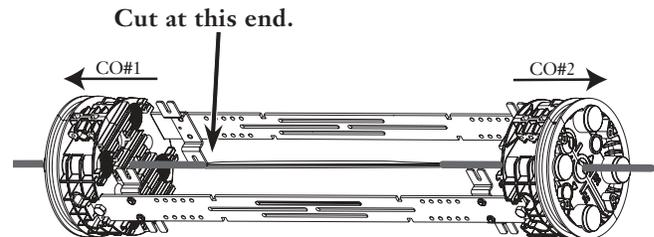

Figure 9
5.3 Refer to your design plan to determine which end of the cable will be branched off (dropped). For example, if a fiber from CO#2 is to be branched off, cut the *accessed fiber* on the CO#1 end of the cable (Figure 9).